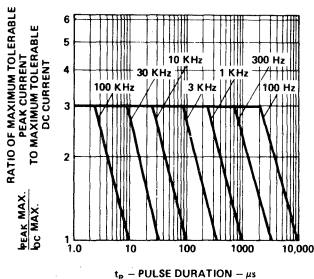

Figure 5. Maximum Tolerable Peak Current vs. Pulse Duration. (I_{DC} MAX as per MAX Ratings)
- See Figure 5 (Red/Orange), 10 (Yellow) or 15 (Green) to establish pulsed operating conditions.